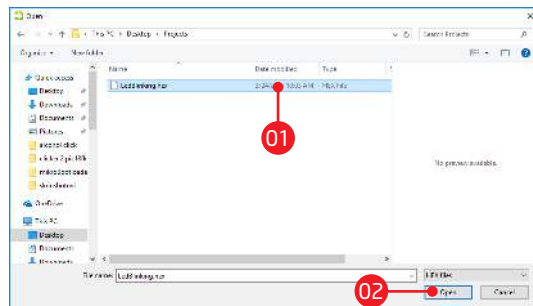

Figure 3-4: Selecting HEX
- 01 Click the Browse for HEX button and from a pop-up window (Figure 3-4) choose the .HEX file which will be uploaded to MCU memory.